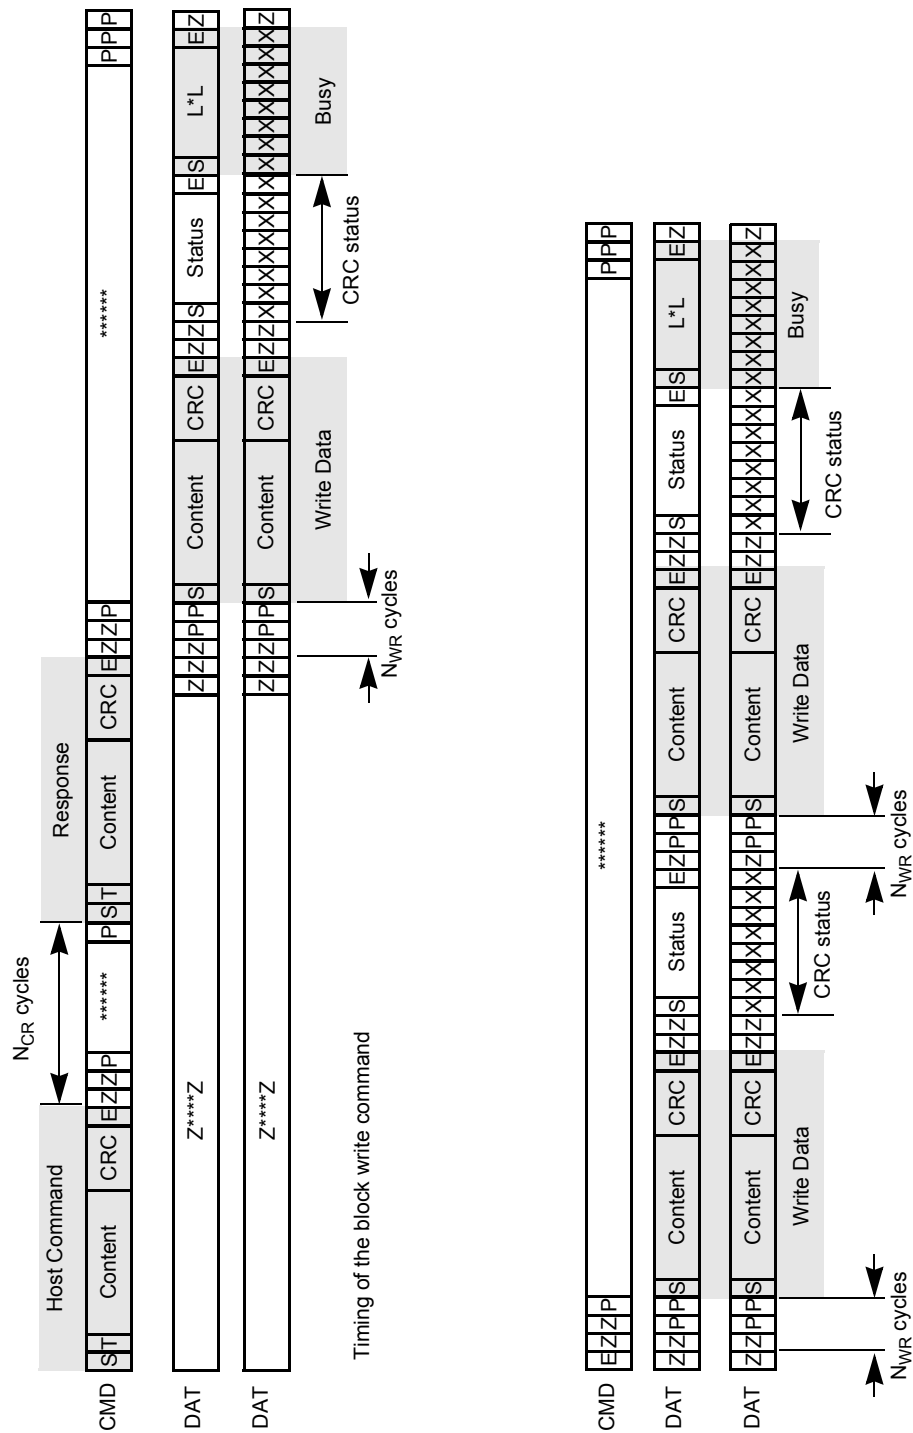

Figure 46. Timing Diagrams at Data Write
Figure 46 on page 58 shows the basic write operation timing. As with the read operation, after the card response, the data transfer starts after N_{WR} cycles. The data is suffixed with CRC check bits to allow the card to check for transmission errors. The card sends back the CRC check result as a CC status token on the data line. If there was a transmission error, the card sends a negative CRC status (101); otherwise, a positive CRC status (010) is returned. The card expects a continuous flow of data blocks if it is configured to multiple block mode, with the flow terminated by a stop transmission command.